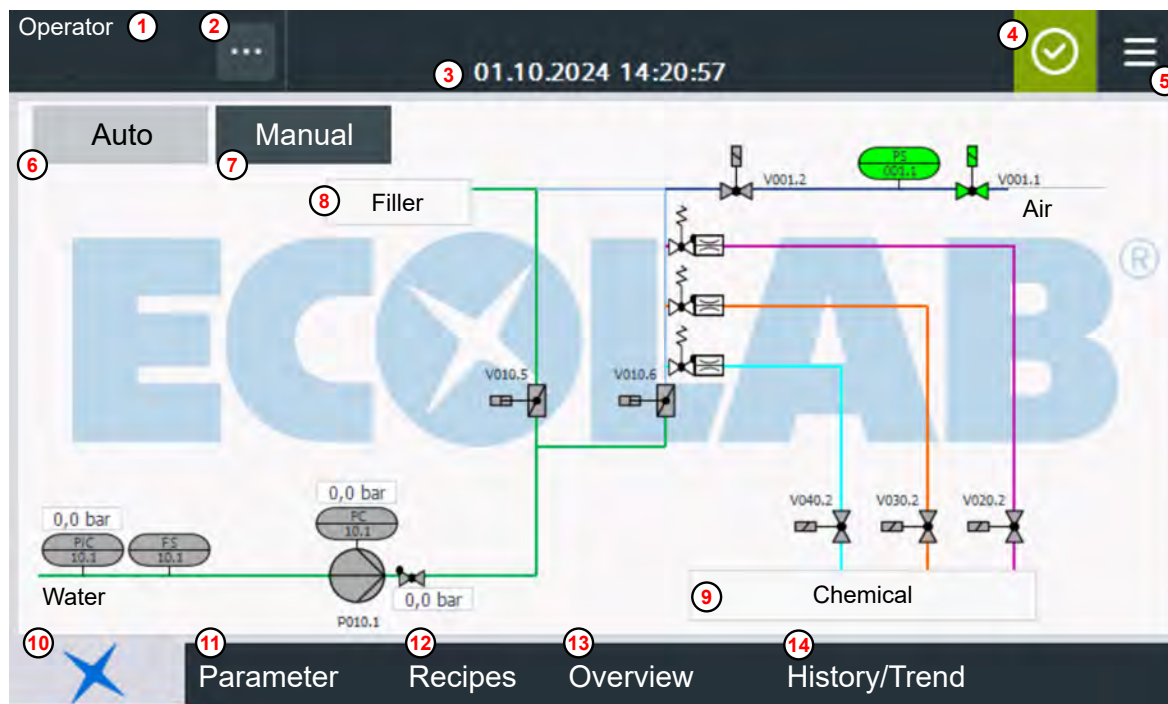

Fig. 14: [Main menu] home screen
Use the switch (Fig. 14, no. ⑤) to go to the main menu.
- ① Set language: Select using the flag symbol